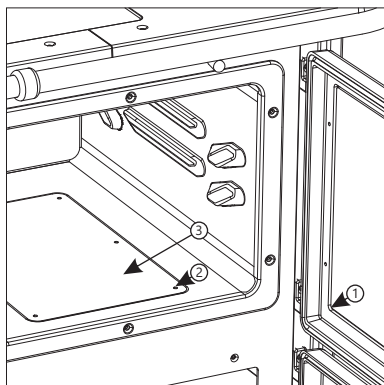

Figure 10
Cleaning the ducts for gaseous combustion products flow below the oven (Figure 10) - open the oven door (1), unscrew the 6 screws (2) on the bottom of the oven and remove the oven bottom lid (3). Use the auxiliary equipment to remove the accumulated soot from the cooker bottom and under the oven bottom. Return the oven bottom lid into the original position after cleaning and fasten it to the oven bottom with screws.